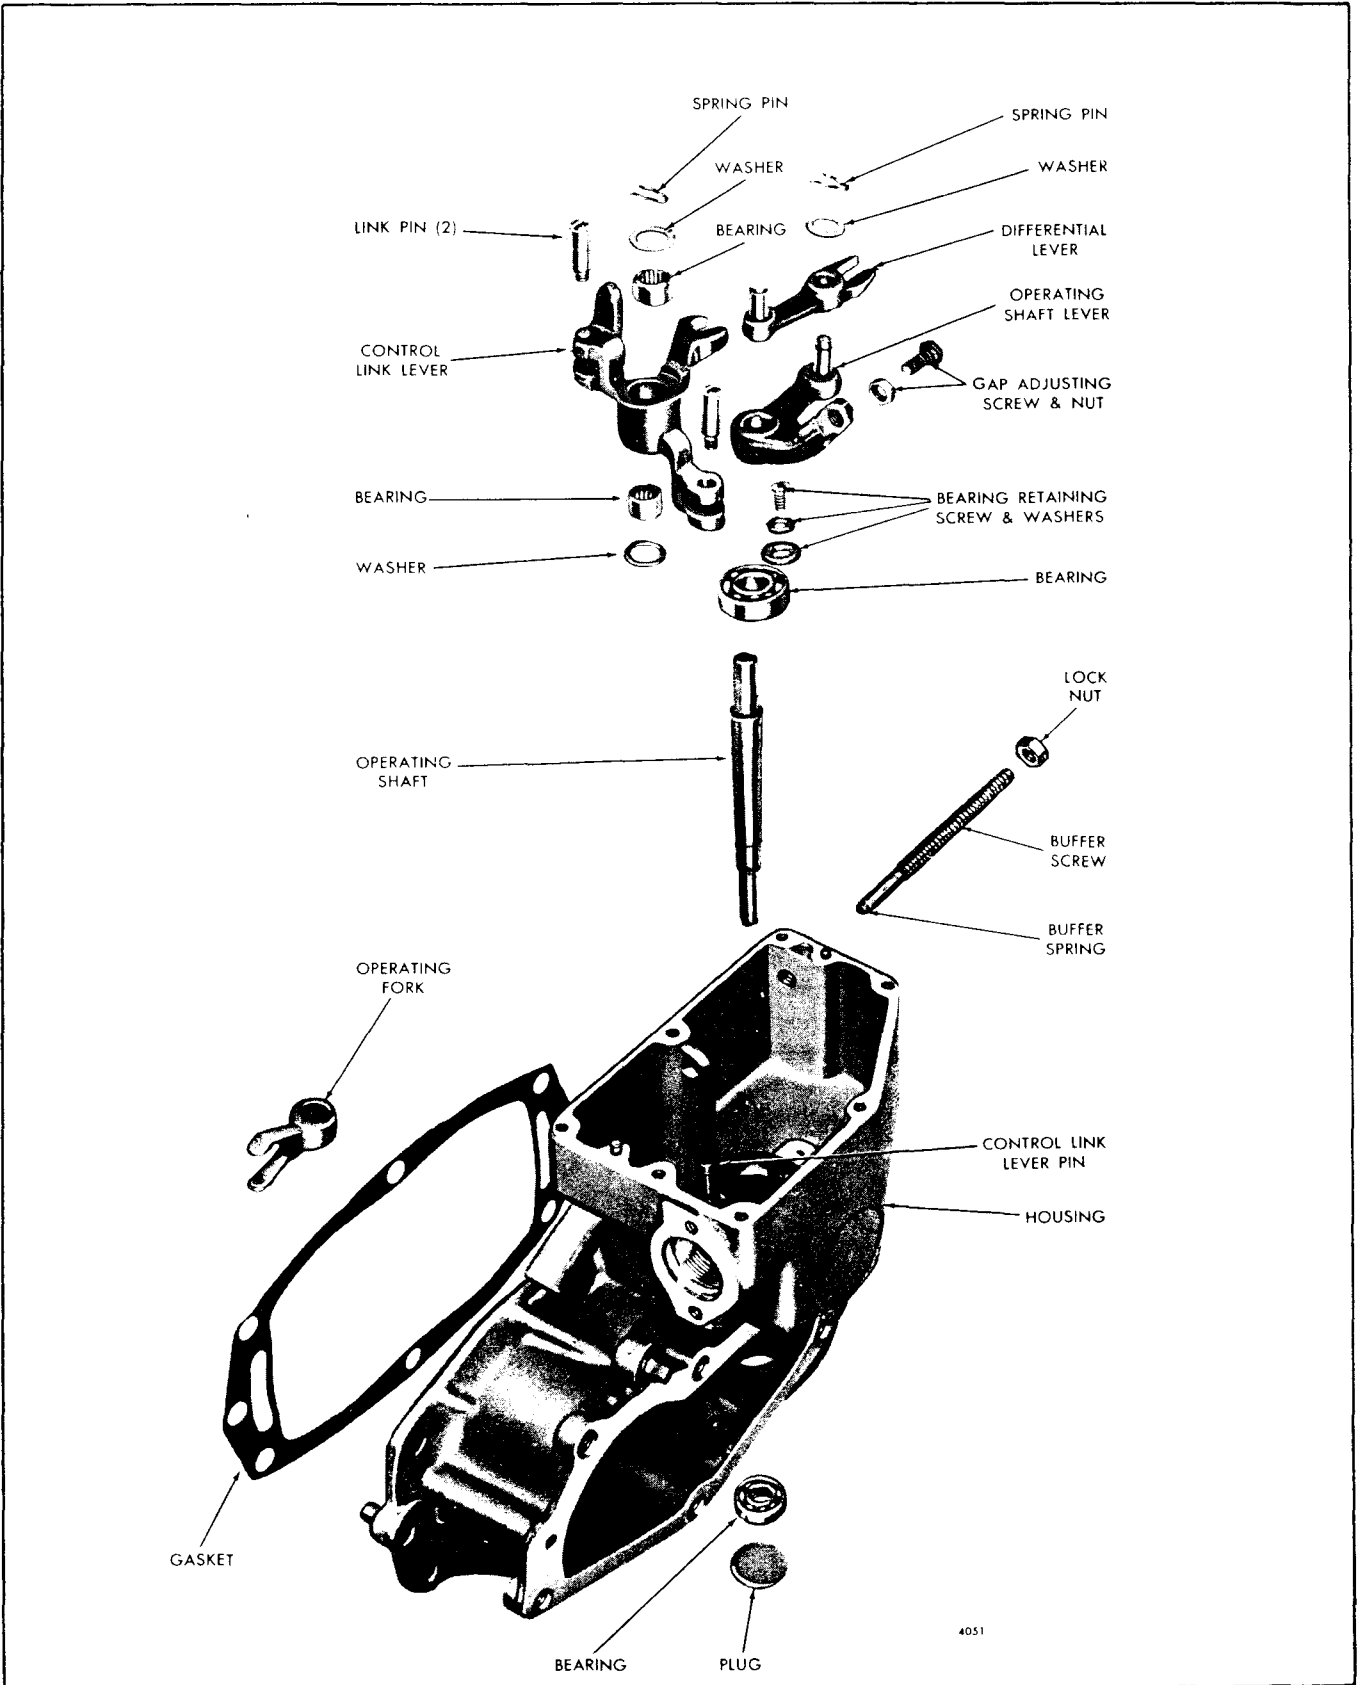

Fig. 7 - Governor Housing Details and Relative Location of Parts
2. Remove the spring pin and washer from the control link lever pin (Fig. 7) and withdraw the control link lever and washer.
Refer to Fig. 7 and assemble the governor housing as follows:
9. Place the differential lever (Fig. 7) over the pivot pin in the operating shaft lever. Secure the lever with a washer and spring pin.